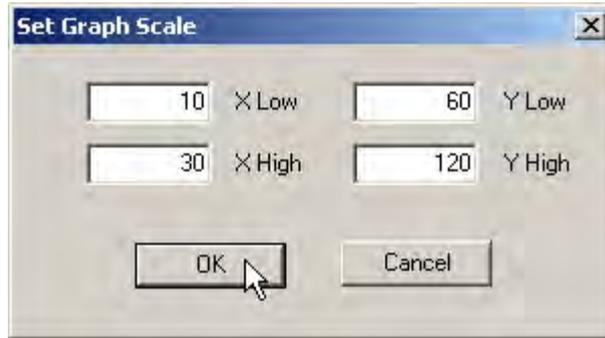

Figure 209 Saving Scale Adjustments
2. Adjust the X axis and Y axis coordinates as necessary and click **OK** (Figure 209).